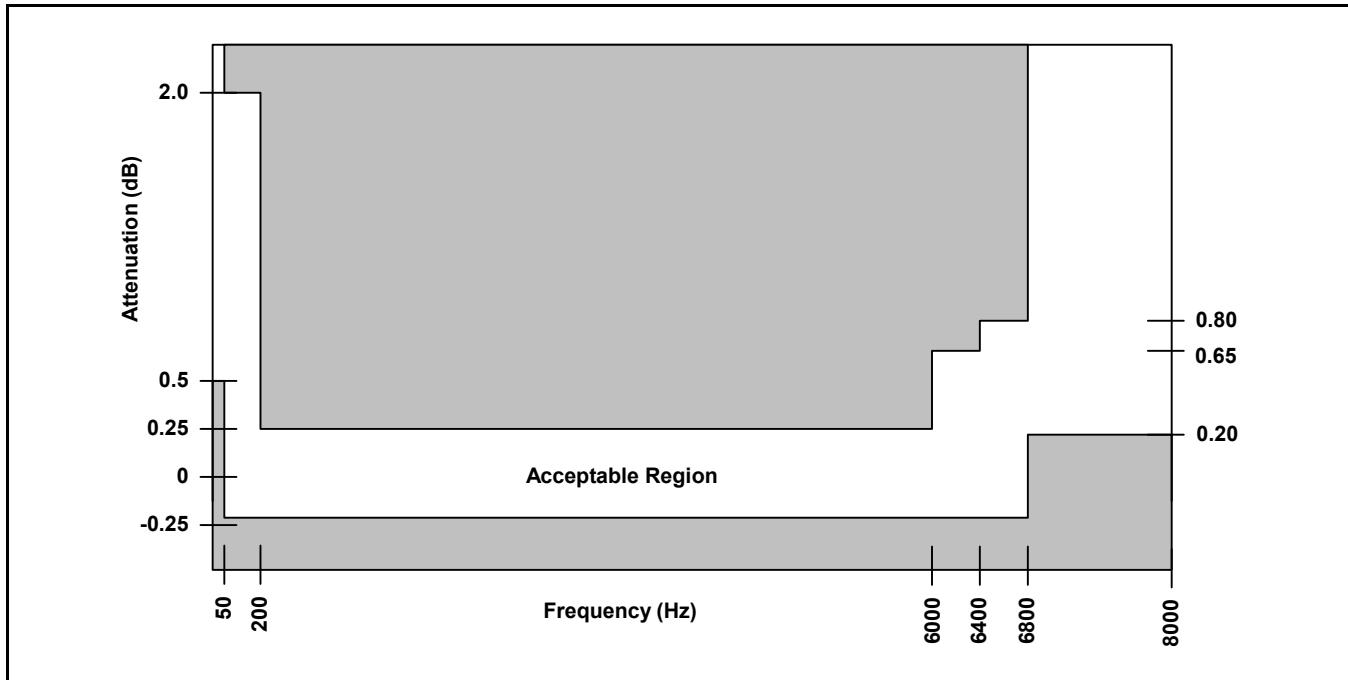
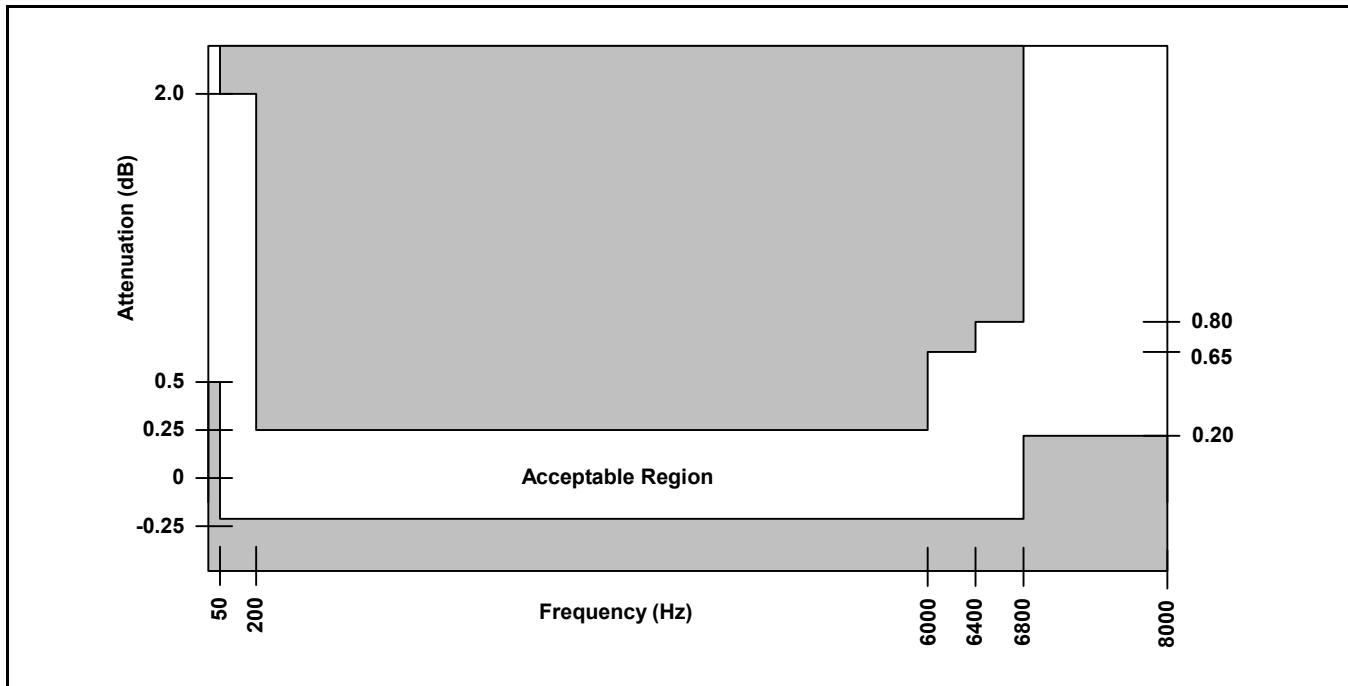

Figure 31 - Transmit Path Attenuation vs. Frequency
Figure 32 - Receive Path Attenuation vs. Frequency
3. See Figure 31 and Figure 32.
The signal attenuation in either path is nominally independent of the frequency. The deviations from nominal attenuation will stay within the limits shown in Figure 31 and Figure 32. The reference frequency is 1014 Hz and the signal level is -10 dBm0 .